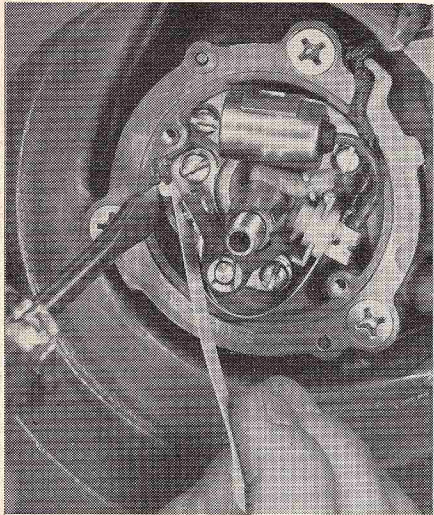

Fig. HL105—View showing magneto backplate, condenser and breaker point assembly. A pry slot is provided to facilitate breaker point adjustment.
Breaker points and condenser are accessible after removing the fan housing and starter assembly, flywheel and breaker cover. A pry slot is provided to facilitate breaker point gap adjustment using screwdriver as shown in Fig. HL105. Adjust breaker point gap to 0.015 if not renewing points. Homelite recommends adjusting breaker point gap with new points to 0.016, or adjust to 0.0165 if both points and crankshaft are new. Condenser capacity should test 0.16-0.20 mfd. Note that the breaker point and condenser retain the felt dust seal (12—Fig. HL104) and washer (13).
Fig. HL104—Exploded view of conventional flywheel magneto used on models XL-101, XL-102 and XL-103. Felt dust seal retainer (13) is held in place by condenser bracket and breaker point base. Refer also to Figs. HL105 and HL106.